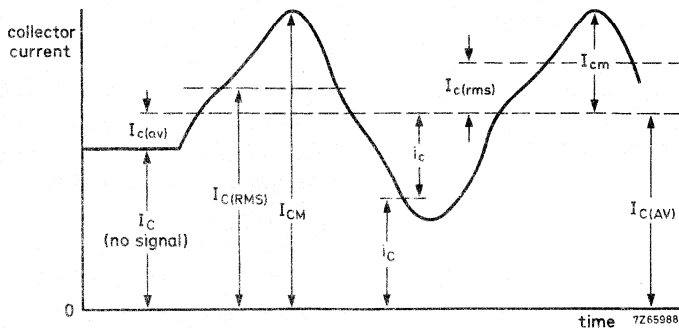

Fig.1 Collector current as a function of time.
Figure 1 represents a transistor collector current as a function of time. It comprises a continuous (DC) current and a varying component.